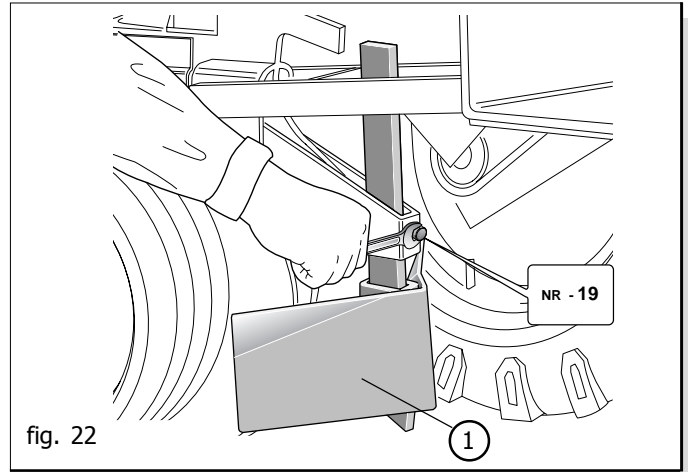
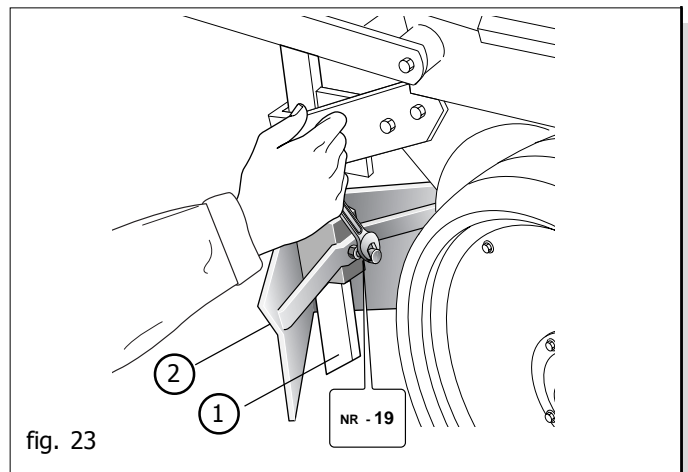

fig. 22
fig. 23
- Adjust the sod breaker (1 Fig. 22) to a height of 2-3 cm from the ground. If the soil is compact, greater depth may be given to the blade (1 Fig. 23), which can be adjusted independently of the wing, in order to facilitate the penetration of the disc coulters (2 Fig. 23).